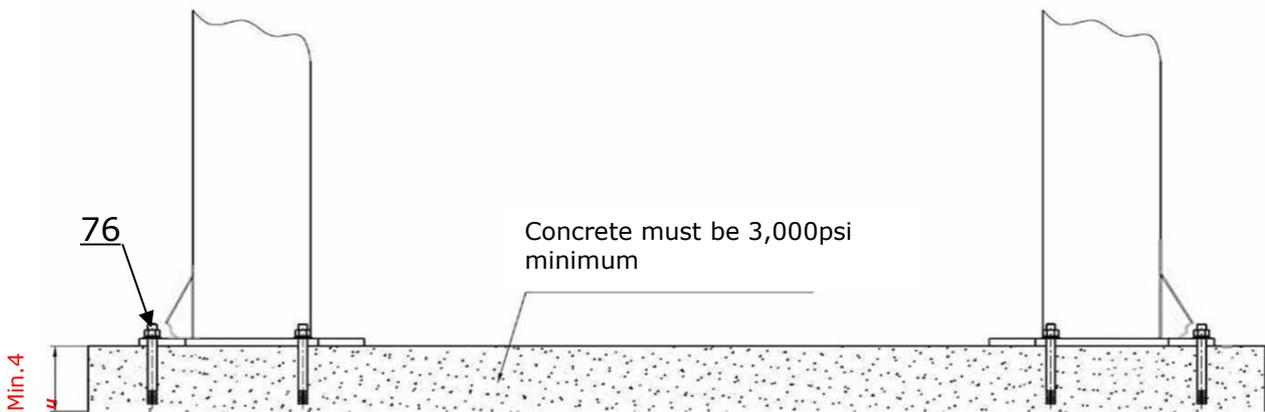

Fig. 8
D. SPECIFICATIONS OF CONCRETE (See Fig. 8)
1. Installation space: Ensure there is enough space for the lift. Accurately measure the front, back, side and top mounting dimensions and refer to the below figure data (**See Fig. 8**).